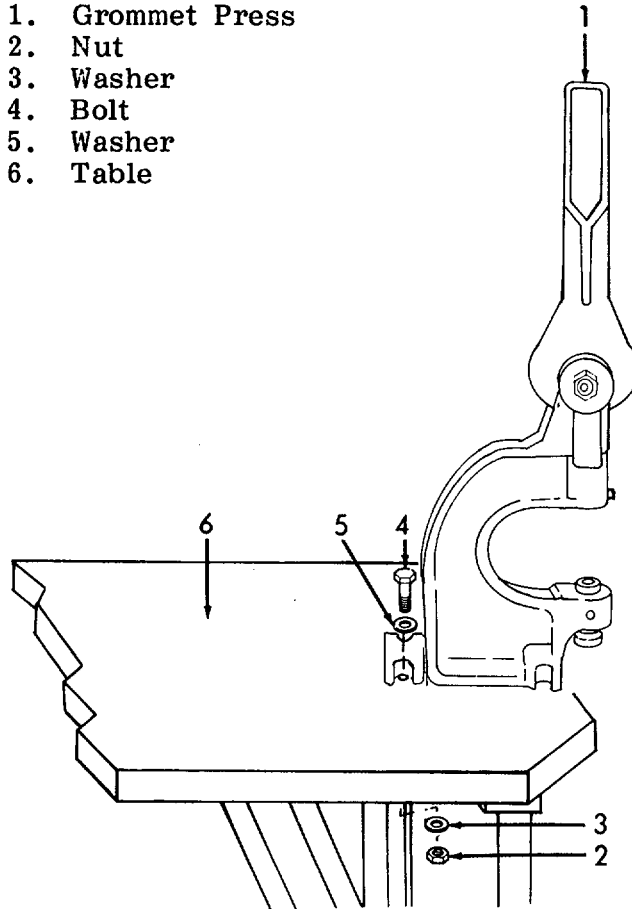

Figure 2-60. Grommet Press, Removal.
d. *Grommet Press* (Refer to Figure 2-60).